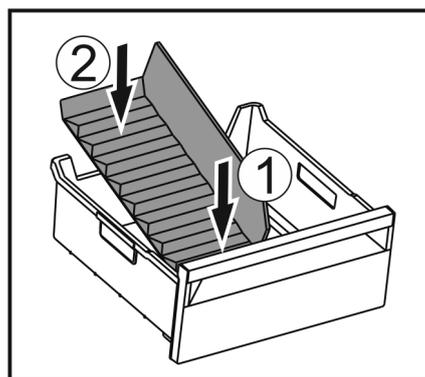

Fig. 51
- ▶ Put in the divider at the front at first Fig. 51 (1).
- ▶ Lower the rear part Fig. 51 (2).